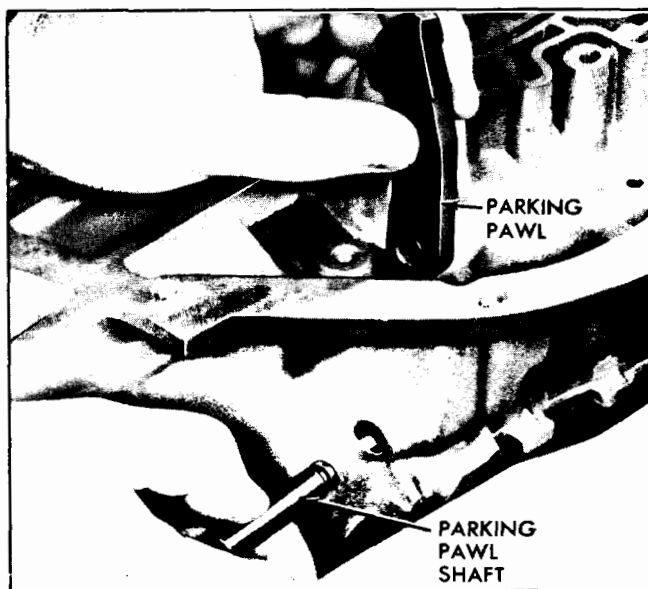

Fig. 7E-178 Installing Parking Pawl and Shaft
6. Install rear band so that two lugs index with two anchor pins. Check to make sure band is seated on lugs (Fig. 7E-182).